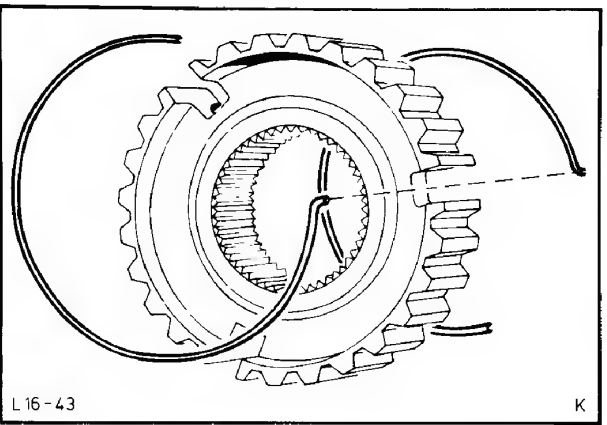

Fig. 42. Insert synchroniser springs
- 30. Reassemble 1st/2nd gear synchroniser hub: insert blocker bars and fit synchroniser springs staggered with their opposite ends in the same blocker bar, Fig. 42.